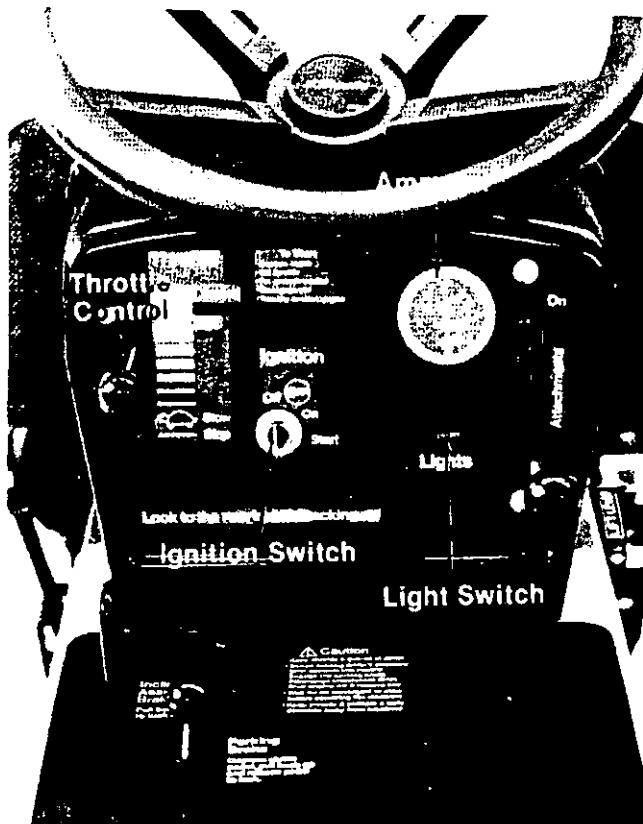

FIGURE 10.
The ignition switch is located in the center of the dashboard. Turn the key to the START position to start the engine. When the engine is running leave the key in the ON position. To stop the engine turn the key to the OFF position. (See figure 10.)
The throttle control is located on the left side of the dashboard and is used to regulate the engine speed. (See figure 10.) The engine should be operated from $\frac{3}{4}$ to full throttle (FAST) when operating any equipment that uses the tractor engine as a source of power such as the mowing deck, snow thrower or rotary tiller. (See figure 10.)
The head lamps are operated by pushing the light switch located on the dashboard. The head lamps will only operate when the engine is running. (See figure 10.)
The maximum charging rate is 3 amps. The head lamps operate directly from the engine alternator and do not register on the ammeter. (See figure 10.)
4. Set the throttle control in the "FAST" position. See figure 10.
5. Turn the ignition key to the right to the "START" position. After the engine starts release the key. It will return to the "ON" position. See figure 10.